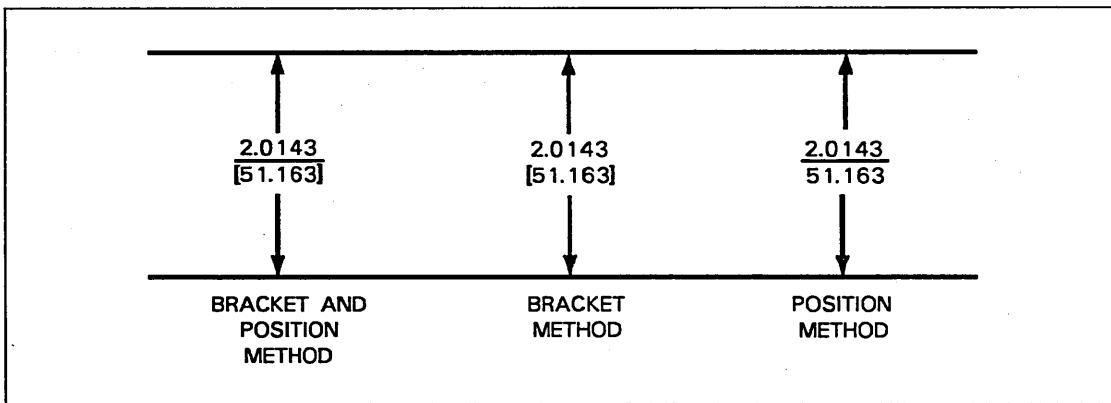

Figure 1-3. Dual Dimensioning Methods
- 1 To produce dual dimensions with the alternate dimensions inside square brackets and a line separating upper and lower text. (See figure 1-3.)
- 2 To produce dual dimensions with the alternate dimensions inside square brackets and no line separating upper and lower text. (See figure 1-3.)
- 3 To produce dual dimensions with a line separating upper and lower text and no brackets around the alternate dimensions. (See figure 1-3.)